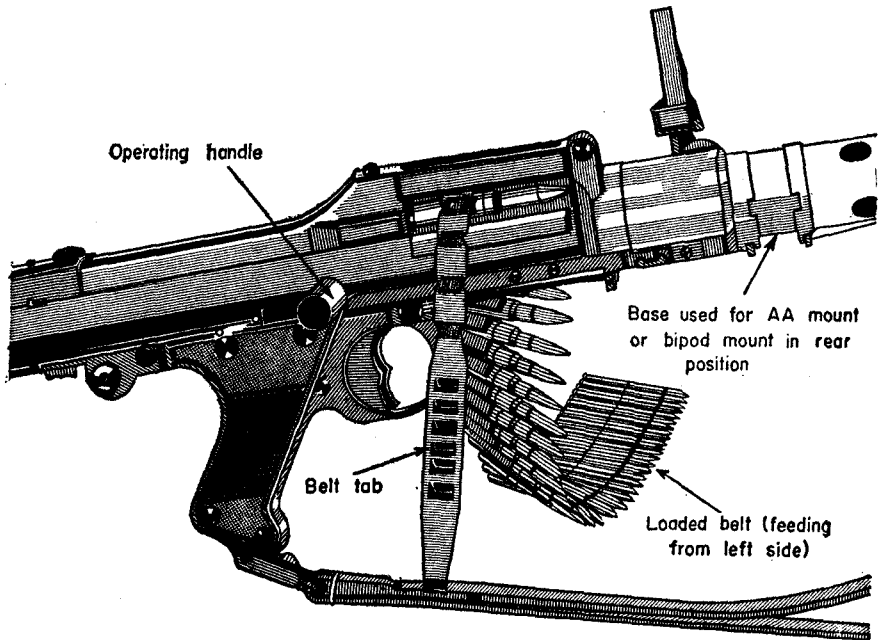

Figure 39.—Sketch showing method of inserting loaded belt in feedway of M.G. 34.
(2) *To load and fire.*—(a) *Using belt from belt box.*—Insert the tab of the belt (see fig. 39), with the open ends of the links down, in the feedway on the left side of the receiver (if you have no tab on the belt,